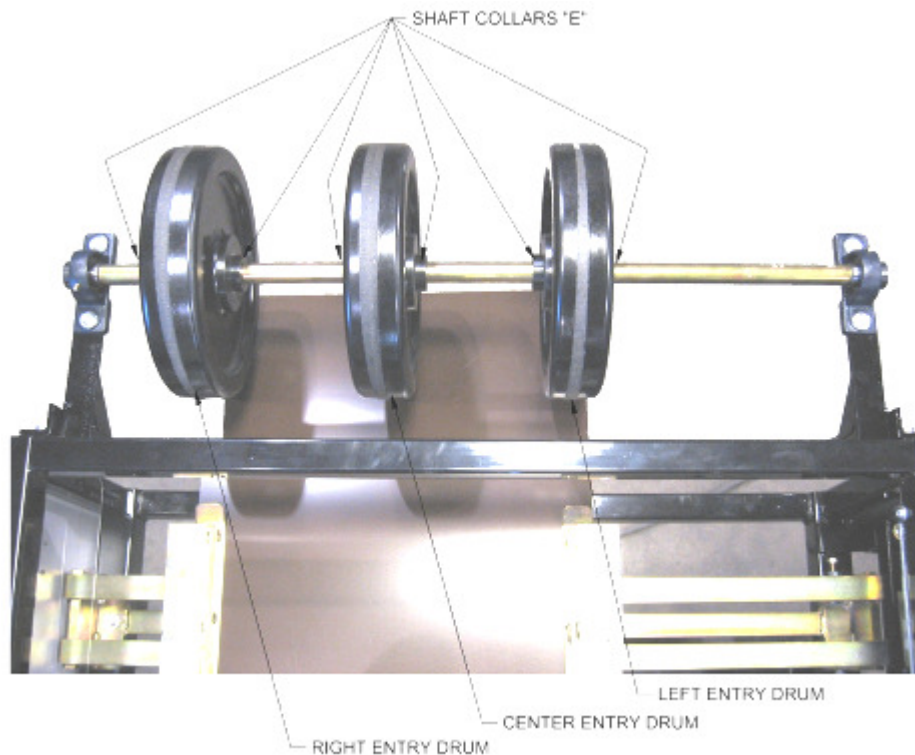

Figure 29: Entry Drum
1. Using a 3/16" allen wrench, loosen the four Shaft Collars "E", on either side of Left Entry Drum and Center Entry Drum. (Figure 29)